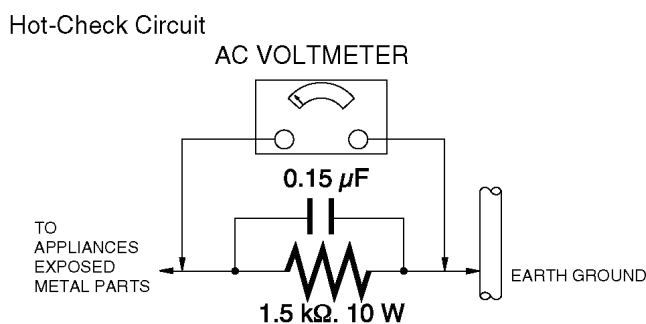

Figure. 1
## 1.3. Leakage Current Hot Check (See Figure. 1)
2. Connect a 1.5 k $\Omega$ , 10 W resistor, in parallel with a 0.15  $\mu$ F capacitor, between each exposed metallic part on the set and a good earth ground, as shown in Figure. 1.